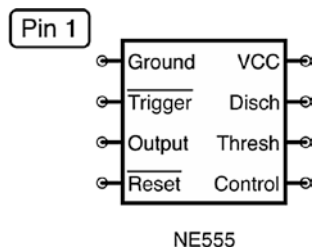
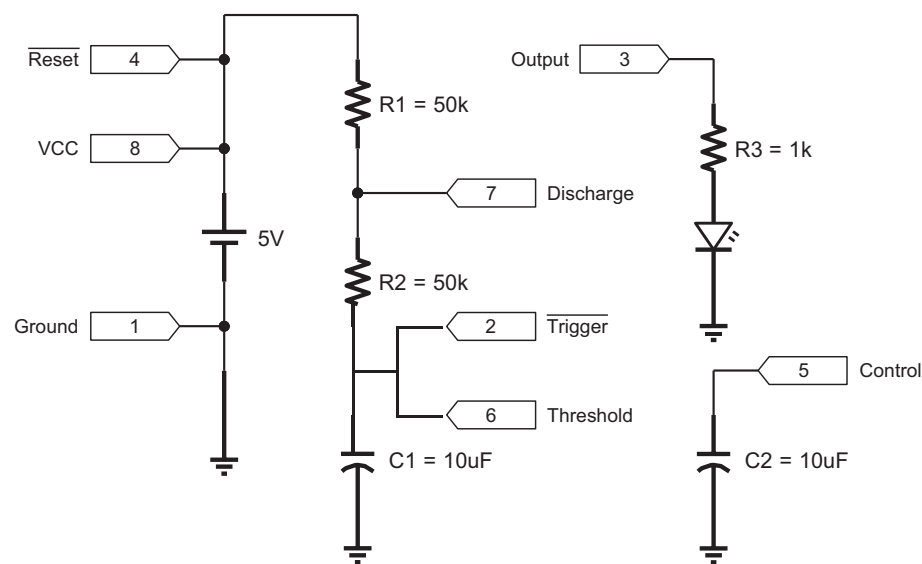

Figure 18-1. *The 555 Pinout Diagram*
Figure 18-2. *A Schematic of a Simple 555 Oscillation Circuit*
It is easiest to describe how a 555 works if we start out by showing a simple circuit with it. The circuit in Figure 18-2 blinks an LED on and off.
The order of the pins on the actual 555 chip is a little confusing (see Figure 18-1). In order to make understanding the circuit in Figure 18-2 easier, I have simply put tags for each pin in the diagram, so you can see where they each belong *functionally*.
First, let’s look at the pins on the left-hand side of Figure 18-1 that are directly connected to the power rails. Pin 1 (Ground) and pin 8 (VCC) are easy enough—they are connected to ground and positive voltage, respectively. Pin 4 (Reset) gets connected to the voltage source too. That is a reset pin which is activated if the pin receives a *low* voltage signal. Pins that are activated by low-voltage signals are often shown with a line over
Example 18.17 Let's say we have the basic oscillator circuit shown in Figure 18-2, but with a 2,000 Ω resistor for R1, a 6,000 Ω resistor for R2, and a 10 μF capacitor for C1. What will be the charge time, the discharge time, the period, and the frequency for our oscillator?
Figure 18-2 will be used as the basis for the problems in this section:
1. Copy Figure 18-2 to a piece of paper including the current flows on charge and discharge.
10. When the chip first turns on (and thus the capacitor is empty and at 0 V), how much current is the RC circuit in Figure 18-2 using?